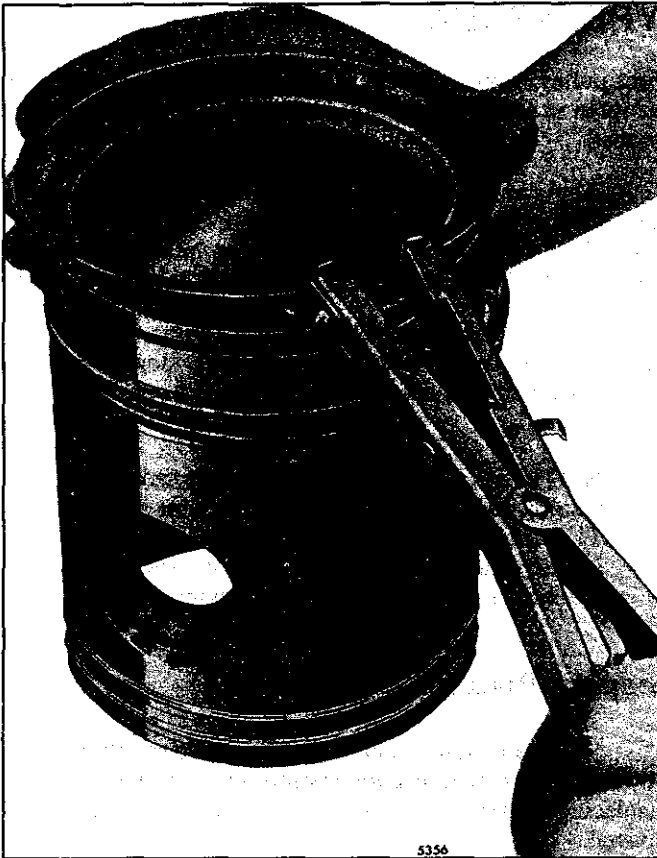

Fig. 13 - Removing or Installing Piston Rings with Tool J 8128
1. Secure the connecting rod in a vise equipped with soft jaws and remove the piston rings with tool J 8128 (Fig. 13).